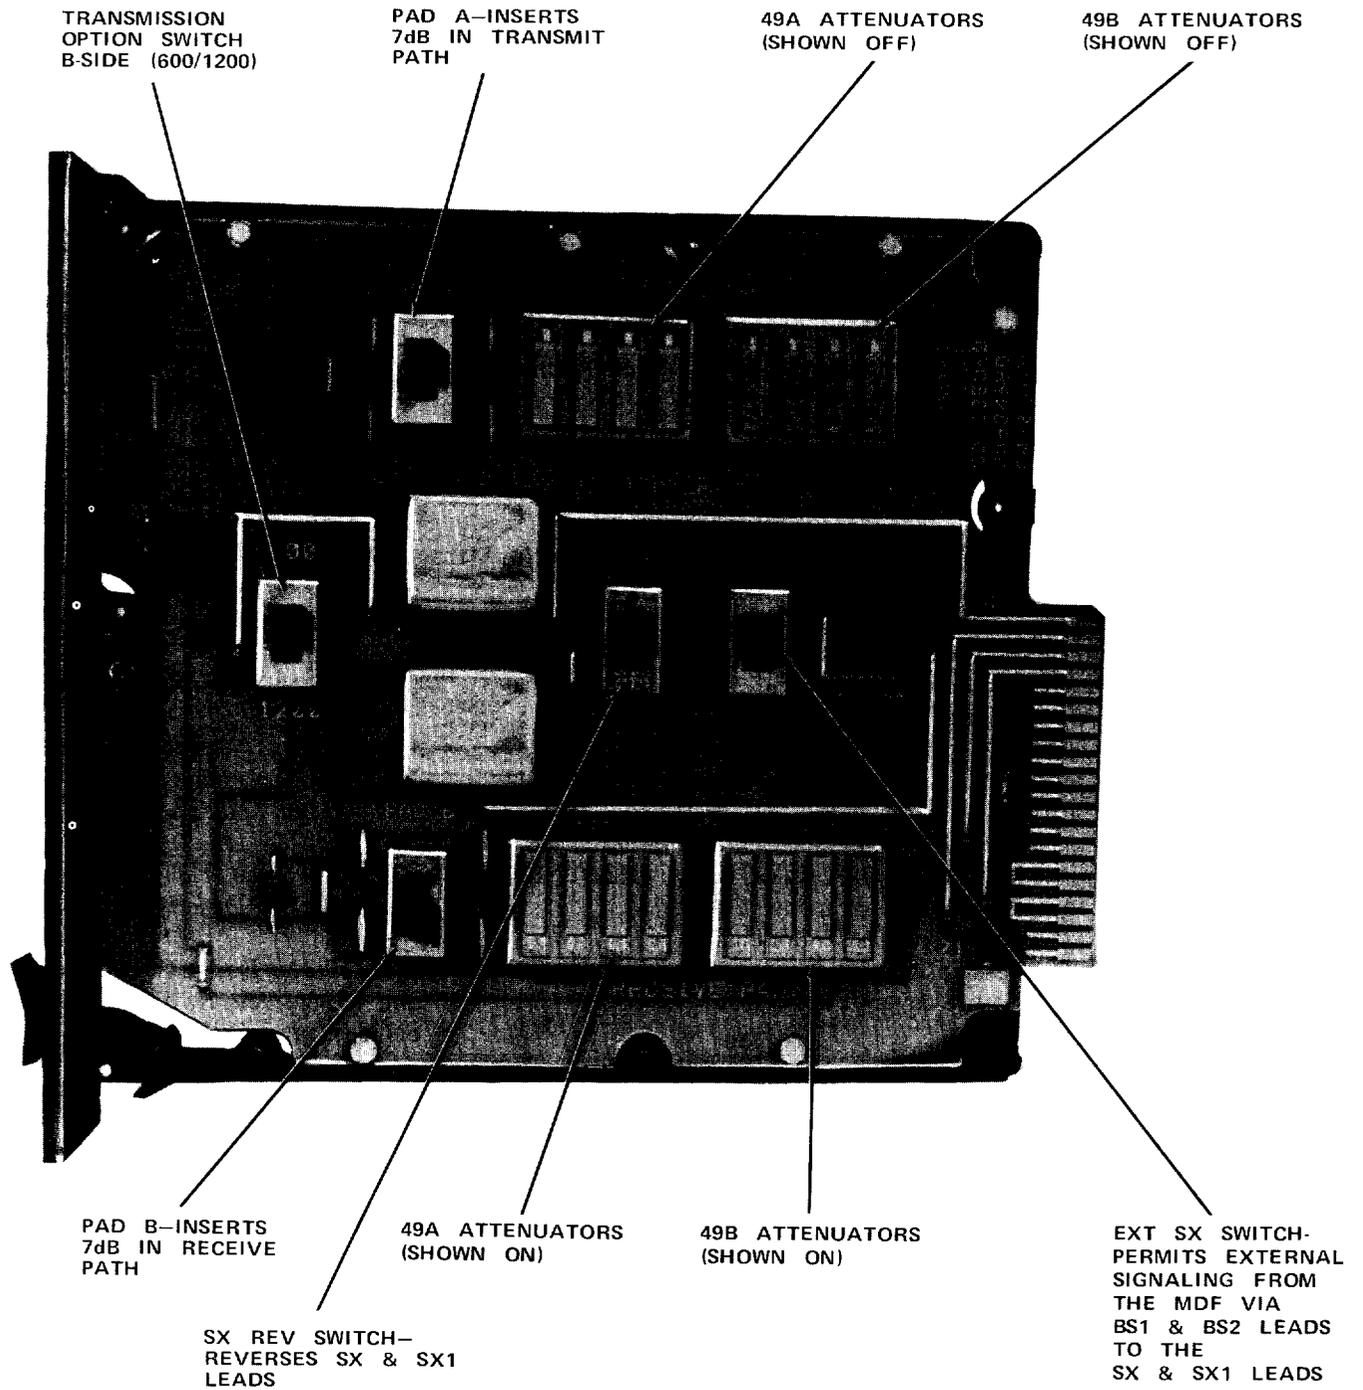

Fig. 1—Component Board Layout--J99343BD
2.01 The J99343BD 4-4 wire passive transmission unit is designed to provide simplex signaling access on 4-wire circuits in applications which don't require gain or equalization. The J99343BD which is shown in Fig. 1 provides three basic functions which are as follows:
2.02 The transmission level at the 4-wire transmit ports on the A and B sides of the transmission unit can be varied by a 49A and 49B attenuator in each transmission path. The 49A can be adjusted from 0.0 dB to 1.5 dB attenuation in 0.1 dB steps. The 49B attenuator can be adjusted from 0.0 dB to 15.0 dB attenuation in 1.0 dB steps. The attenuators are shown in Fig. 1. The slide switches which set the adjustments of the 49A attenuator are labeled 0.1, 0.2, 0.4, & 0.8 (-dB) and the switches of the 49B attenuator are labeled 1.0, 2.0, 4.0 & 8.0 (-dB). The label value associated with each switch of the 49A and 49B attenuator corresponds to the loss (dB) that will be inserted when the label value of the switch is visible.
2.03 Located in each transmission path is a 7 dB pad controlled by slide switches labeled PAD A for the transmit path and PAD B for the receive path. Additional attenuation of 7 dB for each direction of transmission may be switched in or out as required (see Fig. 1). The pads are "in" when their respective switches are operated toward their designation.
2.04 Transformers which interface the 4-wire cable facility are arranged such that the impedance presented to the 4-wire facility is either 600 or 1200 ohms. A slide switch located on the printed wiring board labeled 600/1200 selects the proper termination (see Fig. 1). The 600-ohm setting is generally used for nonloaded cable facilities and the 1200 ohm for loaded cable facilities.